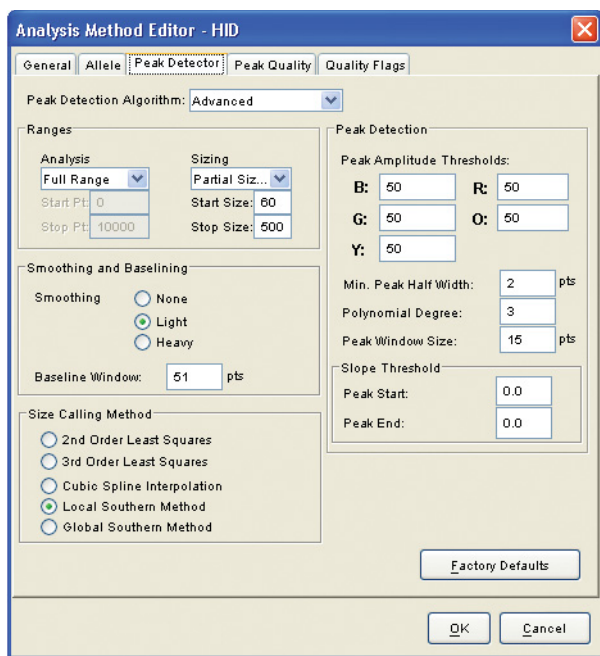

Figure 20. The GeneMapper® ID Peak Detector tab.
10. Select the Peak Detector tab. We recommend the settings shown in Figure 20.